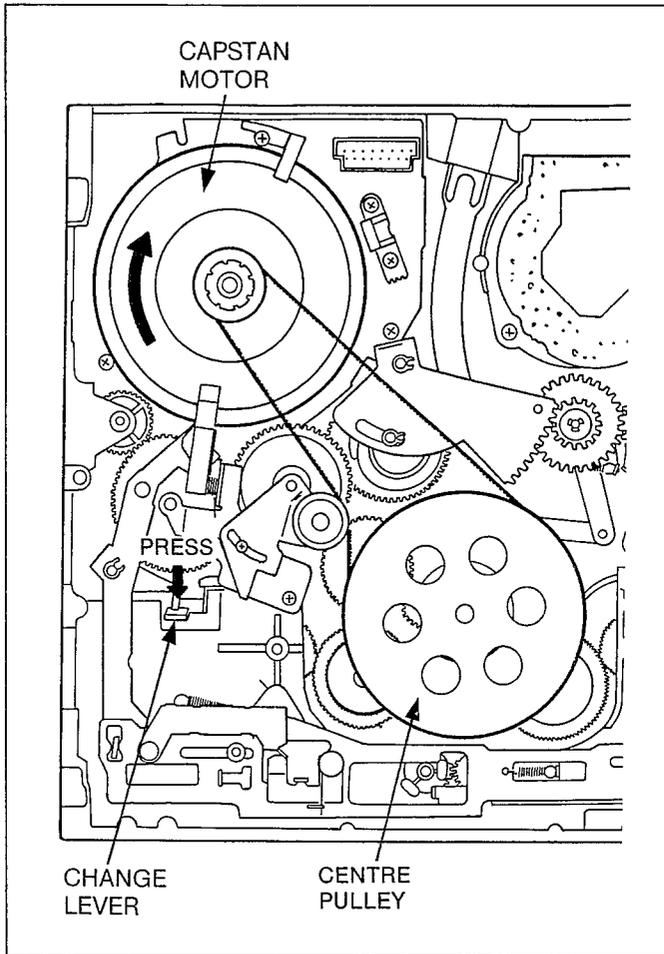

Fig. M2
3. Turn the Capstan Motor to the clockwise while the change lever is being pushed until the loading is completed as shown in Fig. M2.